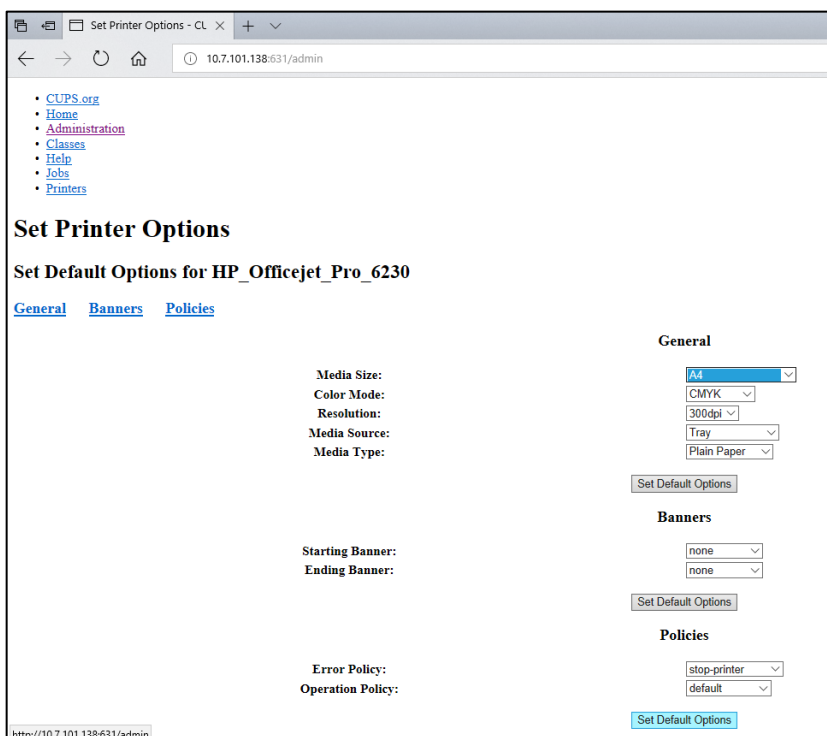

Figure 104. Selecting correct Media Size.
7. Select the correct Media Size (such as "A4"), because some printers will not print if the paper format is incorrect. Next, save the selection by pressing **Set Default Options** (Figure 104).